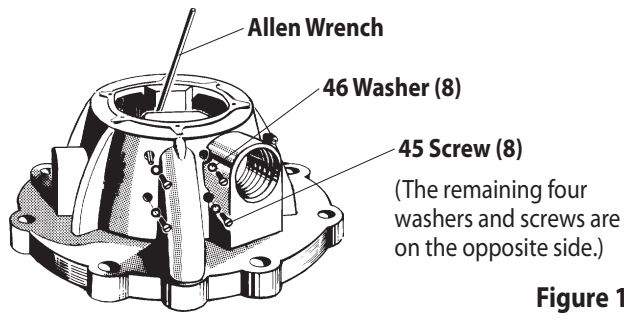

Figure 1
2. Remove six (1) screws, releasing the (31) cap and (32) gasket.
3. Loosen the eight (45) screws, which hold the (33) valve plate and pin assembly, (30) valve guide, two (4) valve guides and the (5) valve plate, until the (30) valve guide and the two (4) valve guides can be removed by pulling upward (see figures 1 and 2).
4. Remove the eight (45) screws and the eight (46) washers from the 8" air motor by pressure outward with a small Allen wrench (see figure 1).